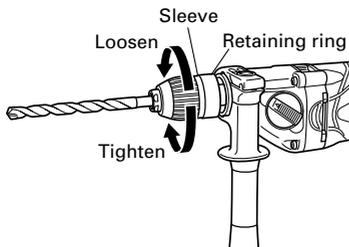

Fig. 3
**For keyless chuck (Fig. 3)**
- (1) Mounting the bit